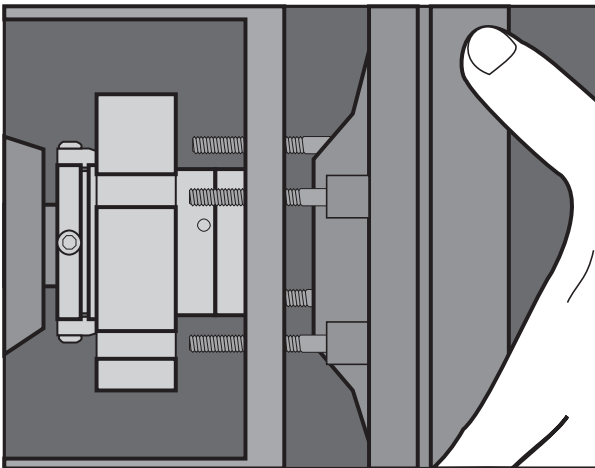

Figure 4
2.4 **Install the pump back plate** (seal chamber) and bolt it in place on the bearing frame. See Figure 4.